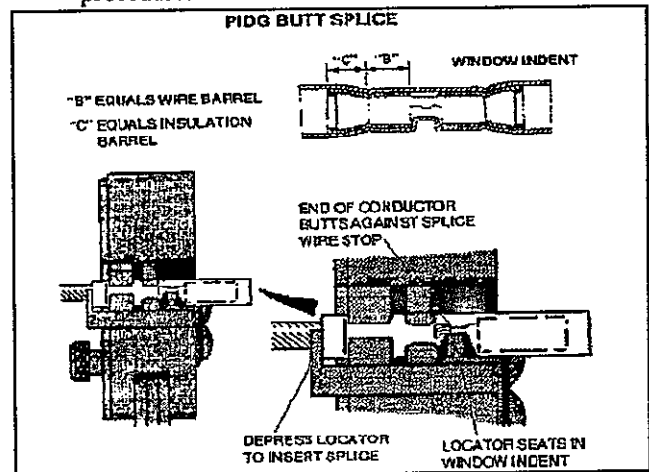

Fig 3
2.2.2 Butt Splices (Refer to Figure 3)